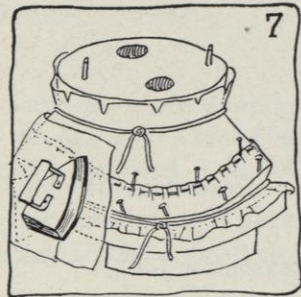

FIG. 7.
- d. Stretch it in and pin it very carefully to the block at inner edge (see Figure 7).
- e. After placing a piece of silk over the ribbon, as shown in Figure 7, press it. **Do not press over pins.**